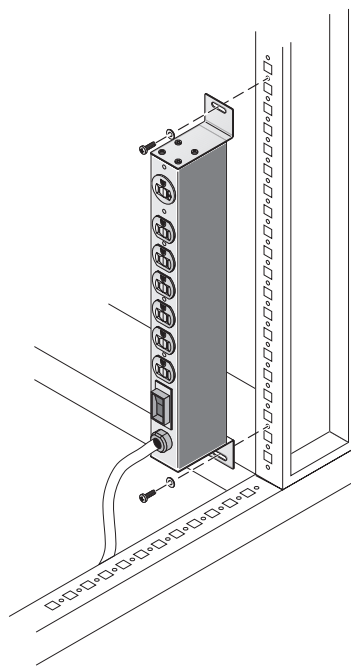

Figure 8. 1U PDU Installation in Side of Rack
2. Identify and mark the location of the PDU on the side of one of the rear vertical support members (See Figure 8). When the mounting brackets are in place on the PDU, there is approximately 17.7 inches (450 mm) between the bracket's mounting holes. Make sure that the PDU will not interfere with other equipment or cables in the rack when it is installed in the desired location.
3. Position the PDU as shown in Figure 8 and secure the unit with screws and washers. Cage nuts are not required when mounting the PDU in the side of the rack; the PDU's mounting brackets are screwed directly to the vertical mounting supports using the screws provided.